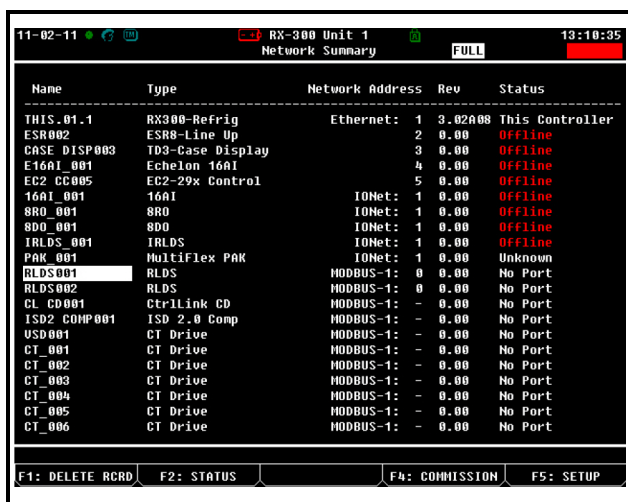

Figure 4-5 - Network Summary Screen
4. Press  to return to the Network Setup menu, then select **1** - **Network Summary** (Figure 4-5).